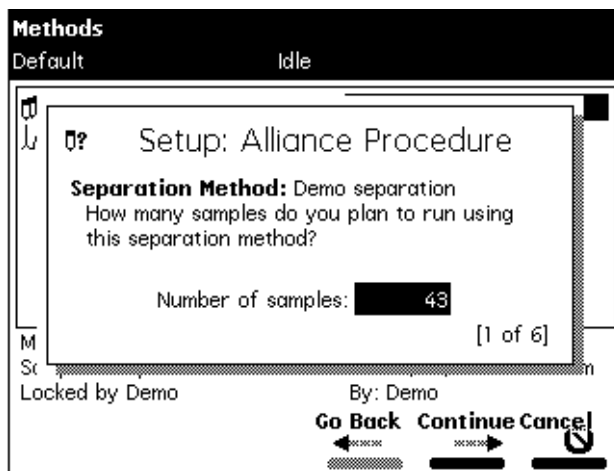

Figure 4-5 Setup Dialog Box
2. Select the sample template you want to run (see Table 4-1), then press **Enter**. The Setup dialog box appears, as shown in Figure 4-5.